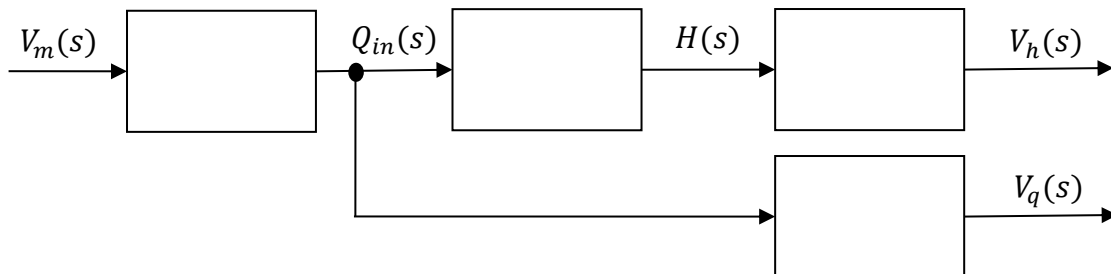

Figure 5 – Block diagram for the open loop system
The open loop system can be represented by a block diagram of the form shown in Figure 5.
1. Derive the transfer functions for the blank blocks shown in Figure 5.
- a) Draw the full block diagram for the open loop system as given in figure 5, with the correct transfer functions for each of the blank blocks.